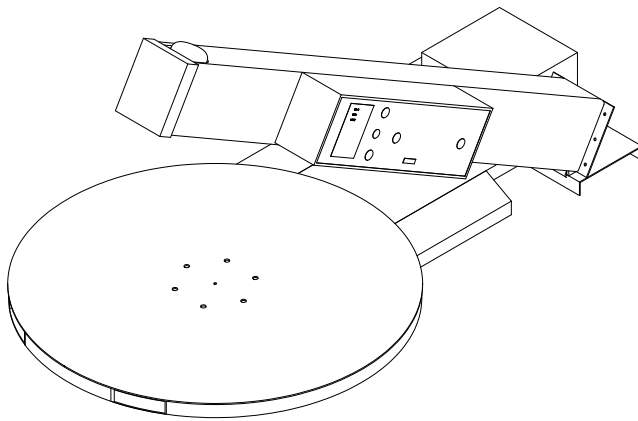

FIG 2-9
- 2) After erecting the upright stanchion with a hoist, one person shall support it to maintain its vertical position, and another person shall fasten it to its corresponding position on the base with 6 M8 screws, as shown in FIG 2-9.